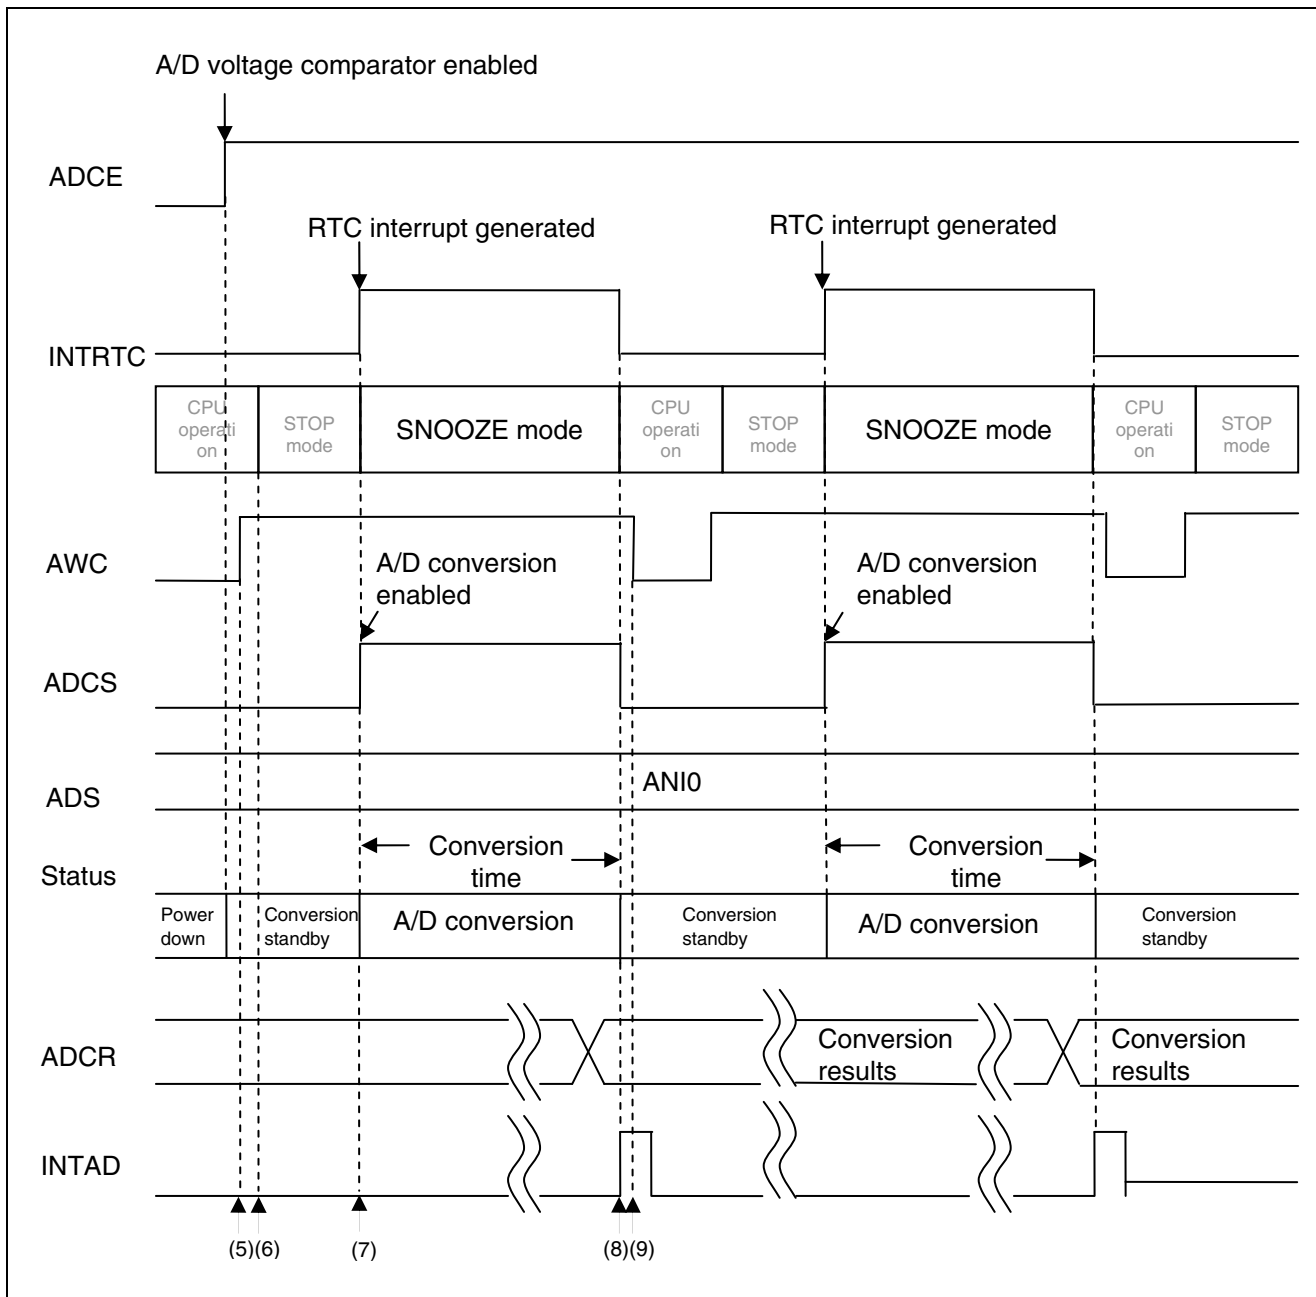

Figure 1.1 Outline of SNOOZE Operation of A/D Converter
Subsequently, the conversion result is subjected to data conversion (shifting the data by six bits to the right) and the result is stored in the RL78/G13's internal RAM. Table 1.1 lists the peripheral function to be used and its use. Figure 1.1 shows the outline of the SNOOZE mode operation of the A/D converter. The numbers in Figure 1.1 correspond to those in section 5.1, Operation Outline.
Remark For (5) to (9) in Figure 1.1, refer to section 5.1, Operation Outline.
The bottom in Figure 1.1 describes the timing when the processing below is performed.